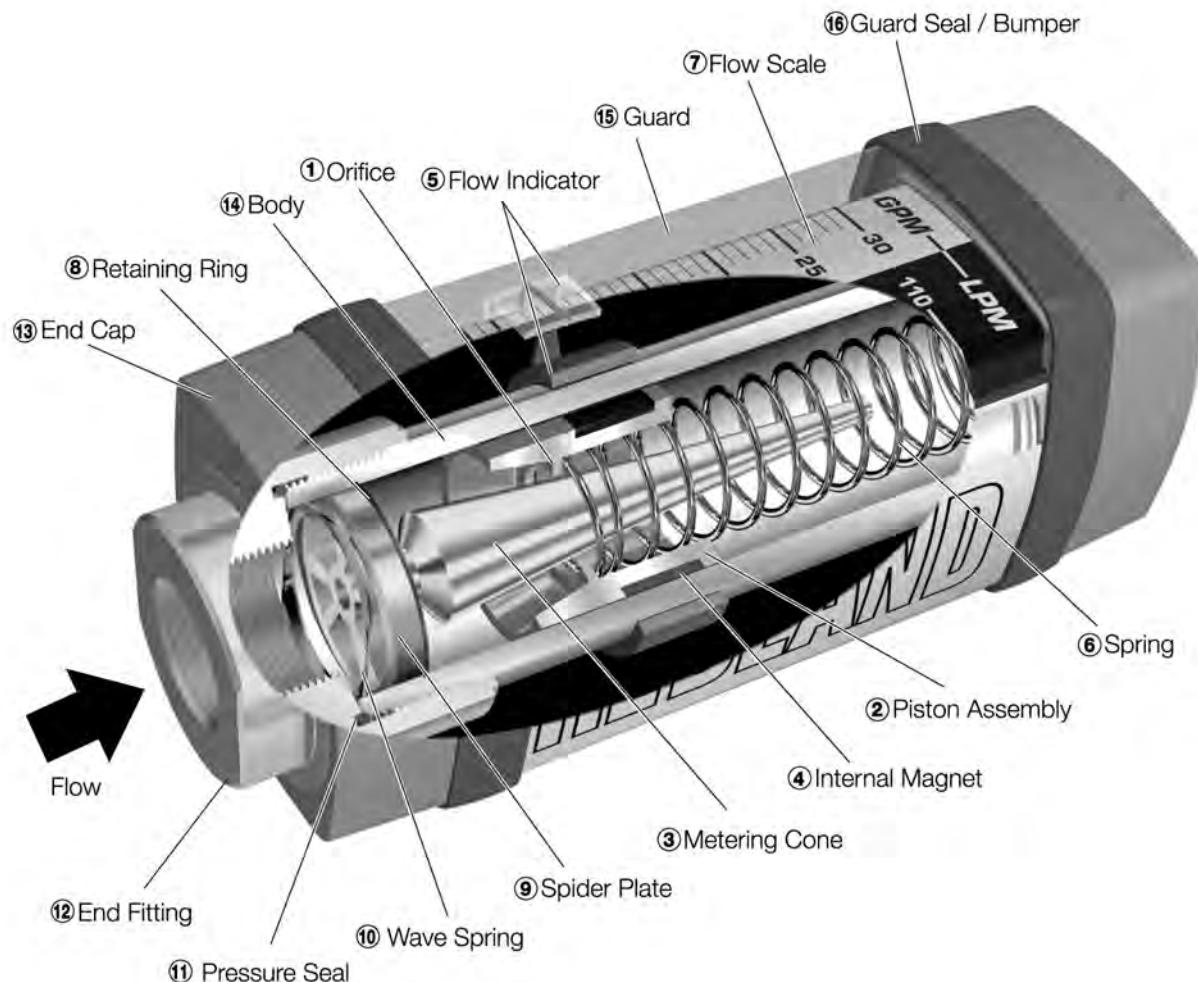

Figure 1: Inline pneumatic flow meter
1. Mount the meter so fluid is traveling in the direction of the flow arrow. See *Figure 1* on page 4.